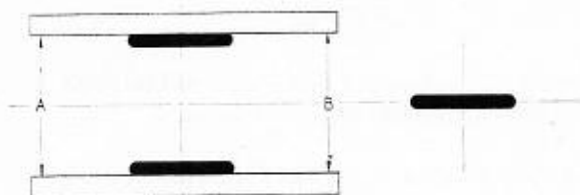

FIG. F1. *Wheel alignment.*
Lay the straight-edges on blocks about 4" (10 cm) from the ground, against the outside of the two rear wheels. Measure the gaps at (A) and (B) in Fig. F1. If measurements at (A) and (B) are different then it means that some component at the rear is misaligned, and the machine should be taken to your dealer for attention.